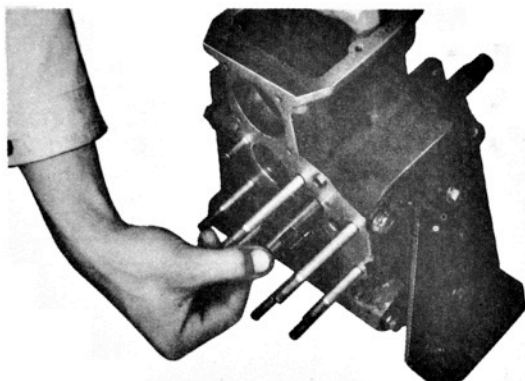

Fig. 3-12.
- 18) Drive out the reduction shift fork spring pin from inside of the transfer case with the special tool (spring pin puller-09922-85810) and withdraw the reduction shift shaft as shown in the Fig. 3-12.